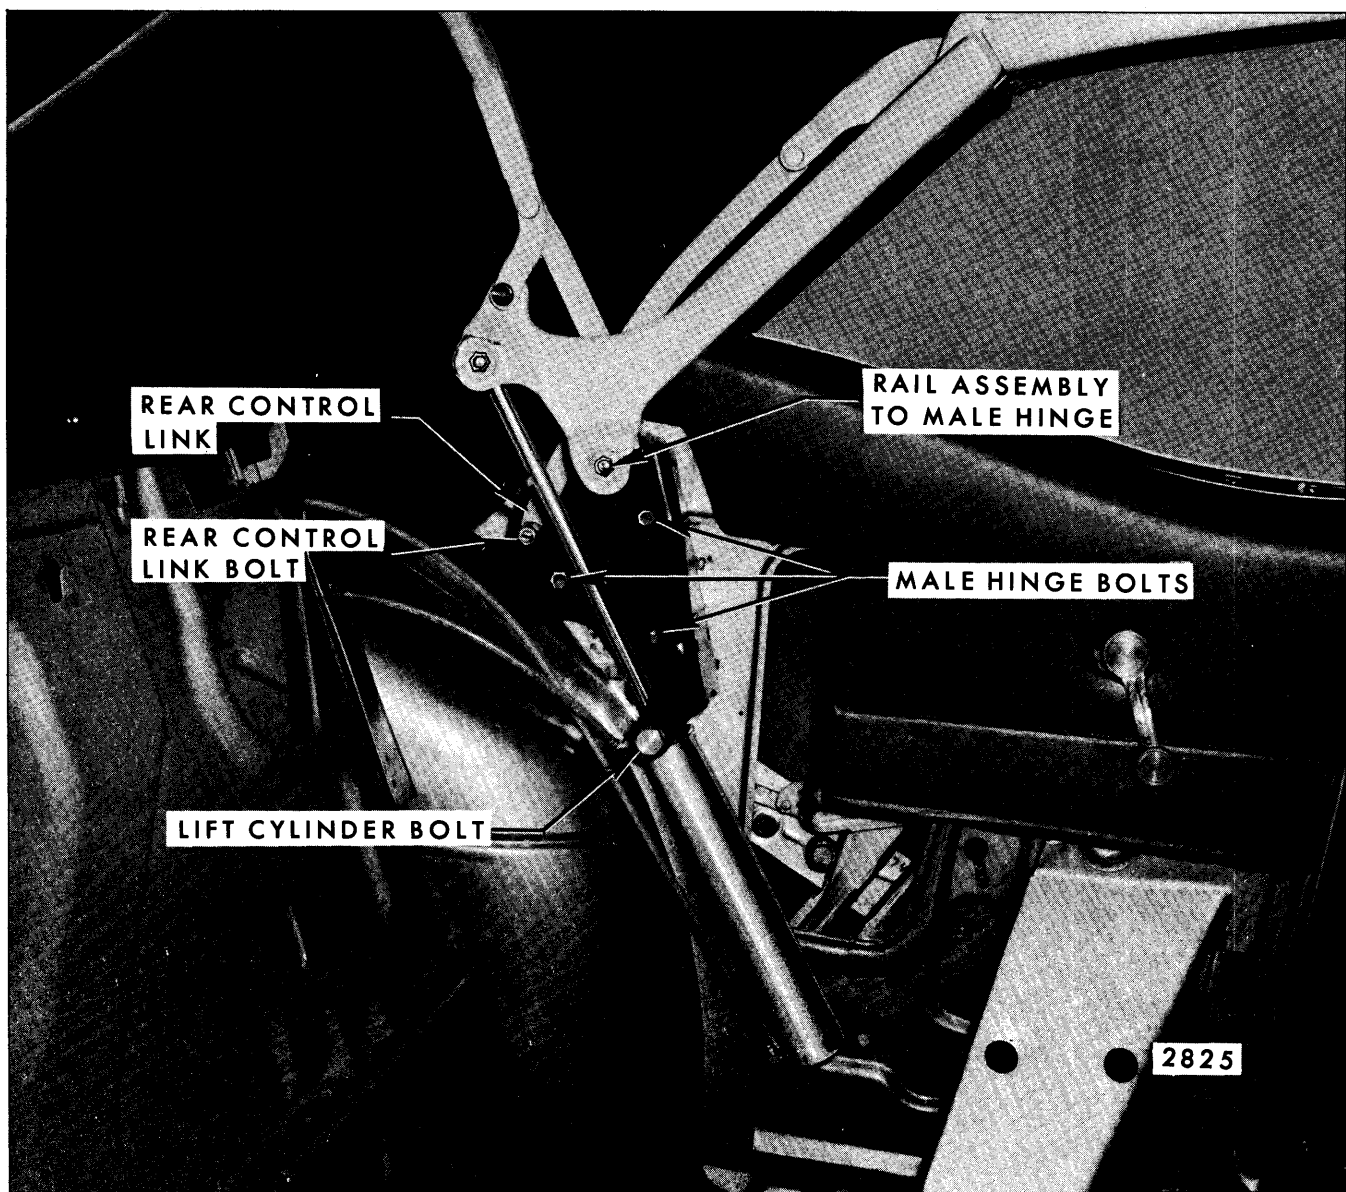

Fig. 13-77—"A" Body Convertible Top Linkage Attachments
- a. Loosen one bolt securing control link sufficiently to permit adjustment of link (See Fig. 13-77).